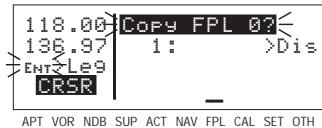

Figure 4-25
3. Rotate the right outer knob counterclockwise to position the cursor over **Copy FPL 0?** (figure 4-25).